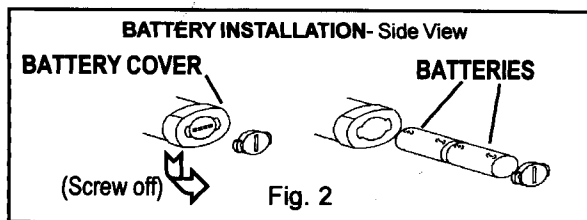

Fig. 2
1. Remove the battery compartment door located on the bottom of the unit by inserting a coin and rotating counter-clockwise 1/4 turn, as shown below. Install batteries, Positive Polarity towards the inside of the unit (See Figure 2).